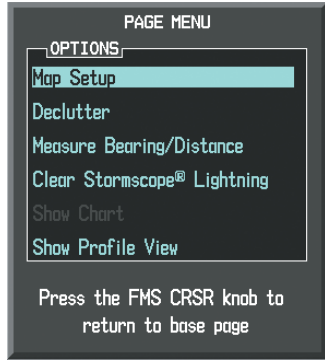

Figure 6-74 Navigation Map Page Menu
- 3) With 'Map Setup' highlighted, press the **ENT** Key (Figure 6-74).